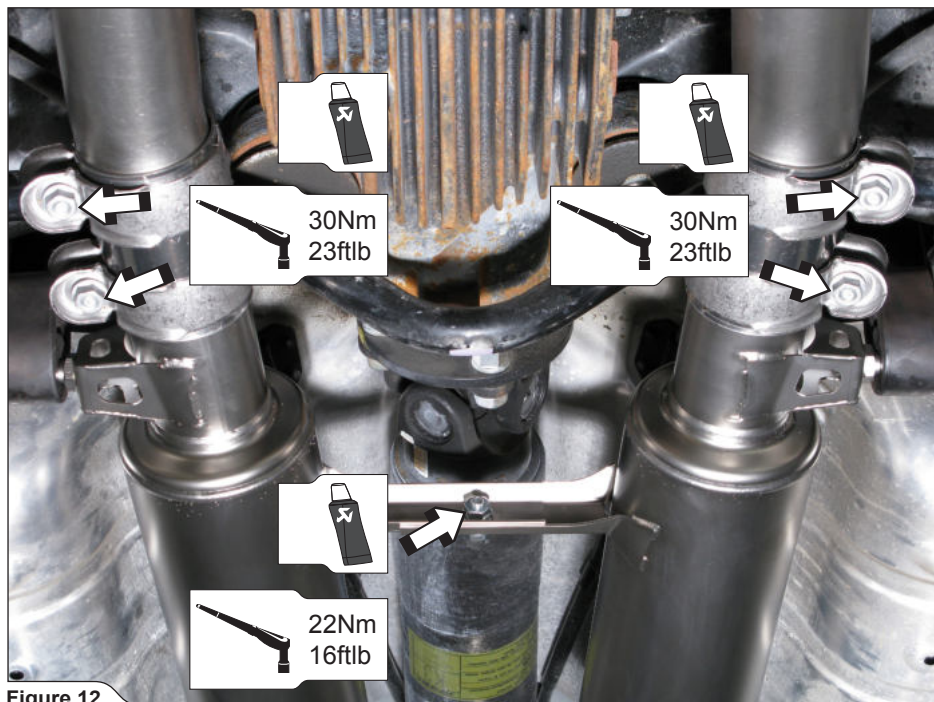

Figure 12
6. **For Evolution only:** align the middle pipes, tighten the double clamps to a specified torque and screw the front pipes' linkage, using bolt and nut from Akrapovič installation kit (**Figure 12**).